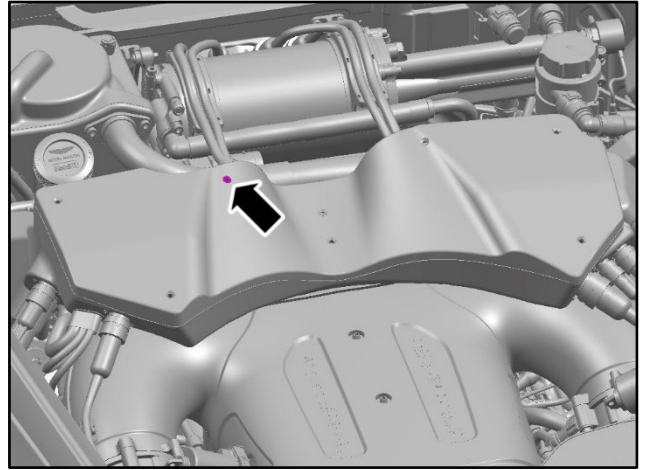

Figure 15
15. Install the 15.88 mm screw (refer to Figure 15).